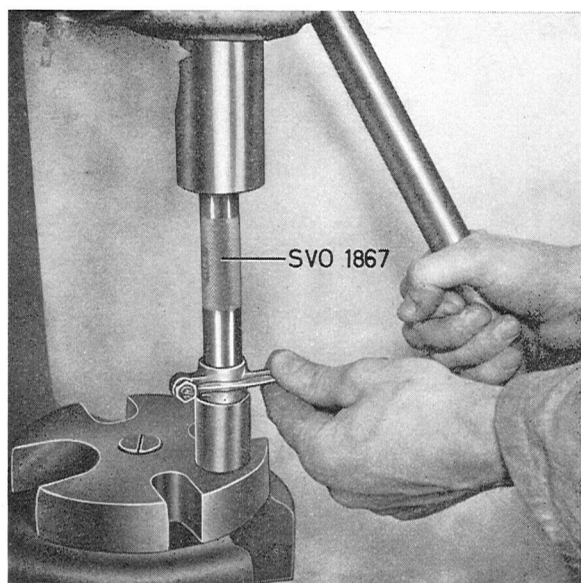

Fig. 2-34. Replacing rocker arm bushing
1. If wear amounts to .1 mm (.004"), replace the rocker arm bushing. Use tool 1867 for pressing the bushing out and in, see Fig. 2-34. Then ream the bushing to an accurate fit on the shaft using a suitable reamer. The hole in the bushing should coincide with the hole in the rocker arm.